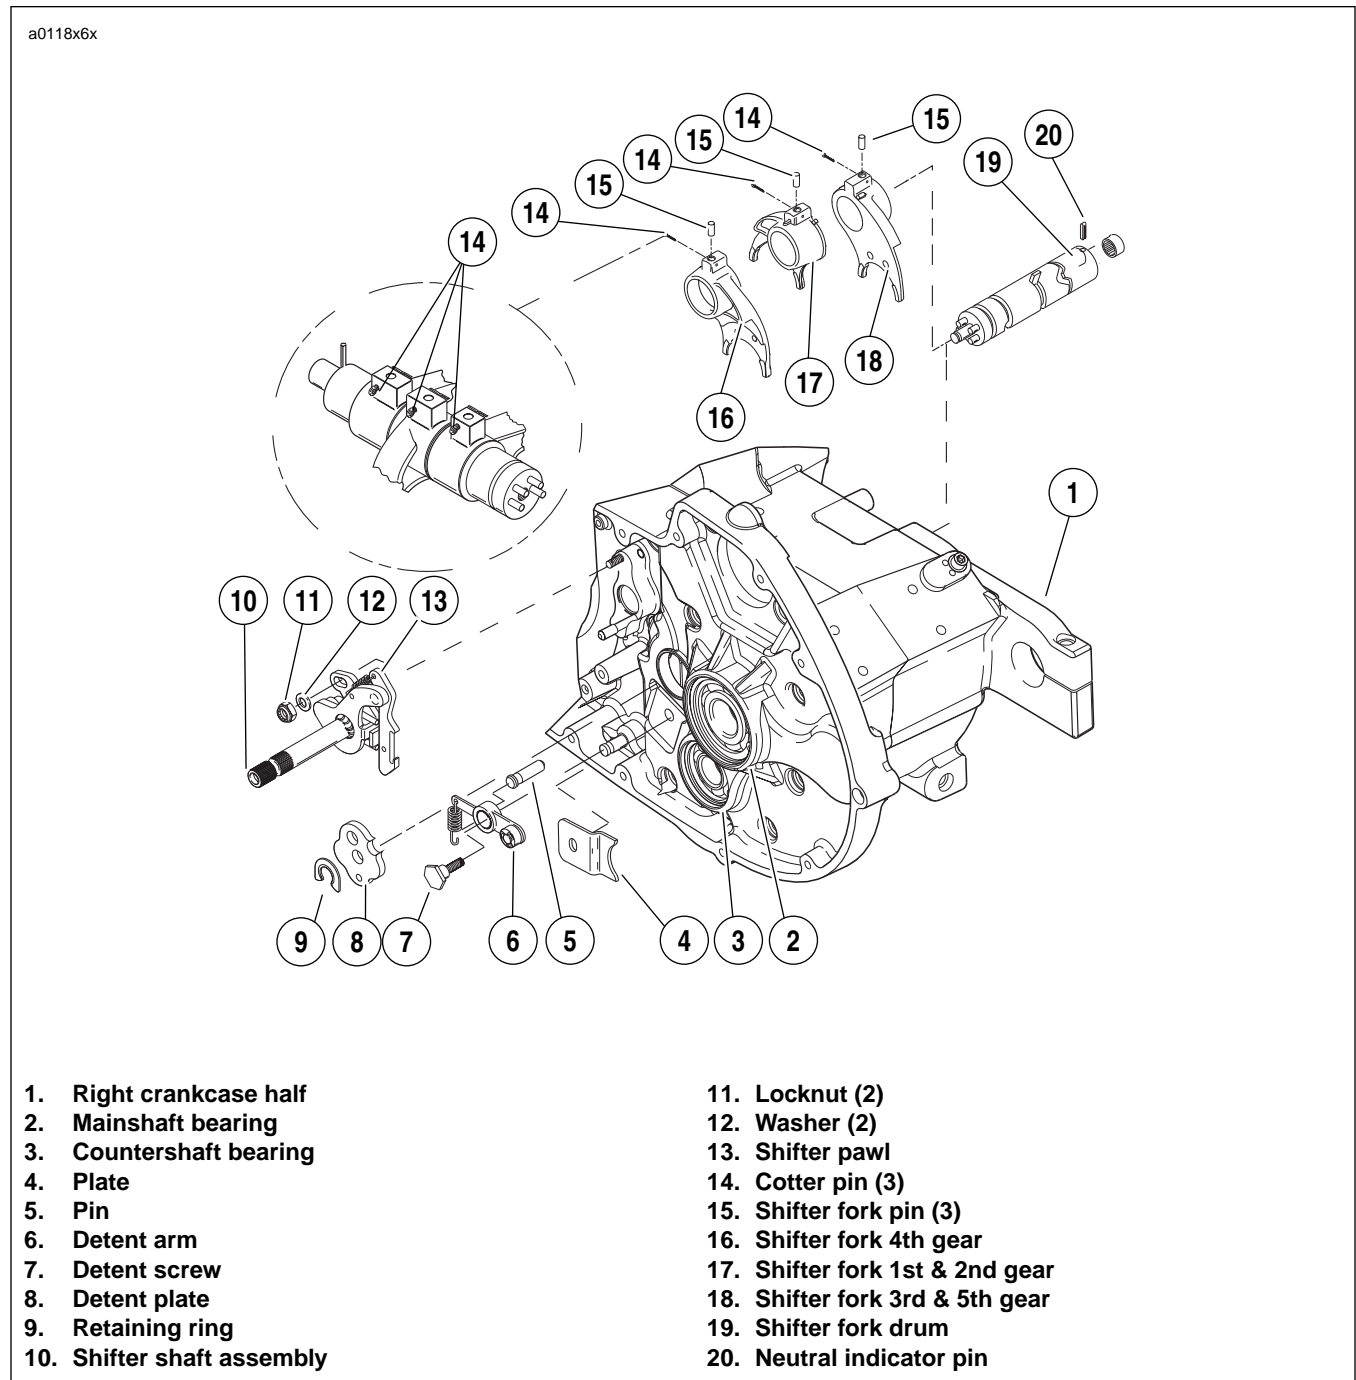

Figure 6-30. Shifter Mechanism
1. See Figure 6-30. Remove and discard the three fork cotter pins (14).
2. Remove three shifter fork pins (15). A small magnet is useful in freeing the fork pins.
3. Slide shifter fork drum (19) away through shifter forks. The neutral indicator pin (20) prevents removal in the other direction.